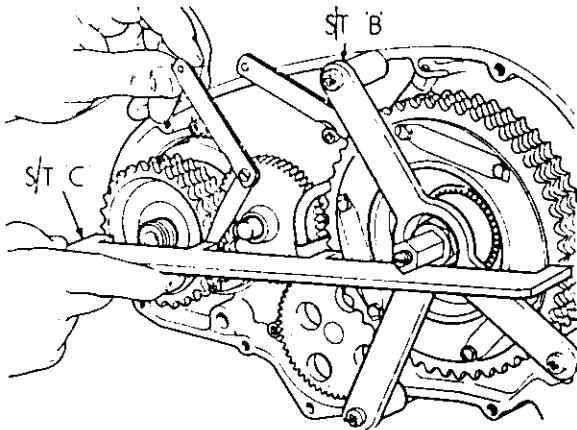

FIG. B91.
Indicated by gap between legs of service tool (C) 61-6105 and faces of engine sprocket. Measure the gap with a feeler gauge, reading is value of shims to be added behind engine sprocket (see Fig. B91).